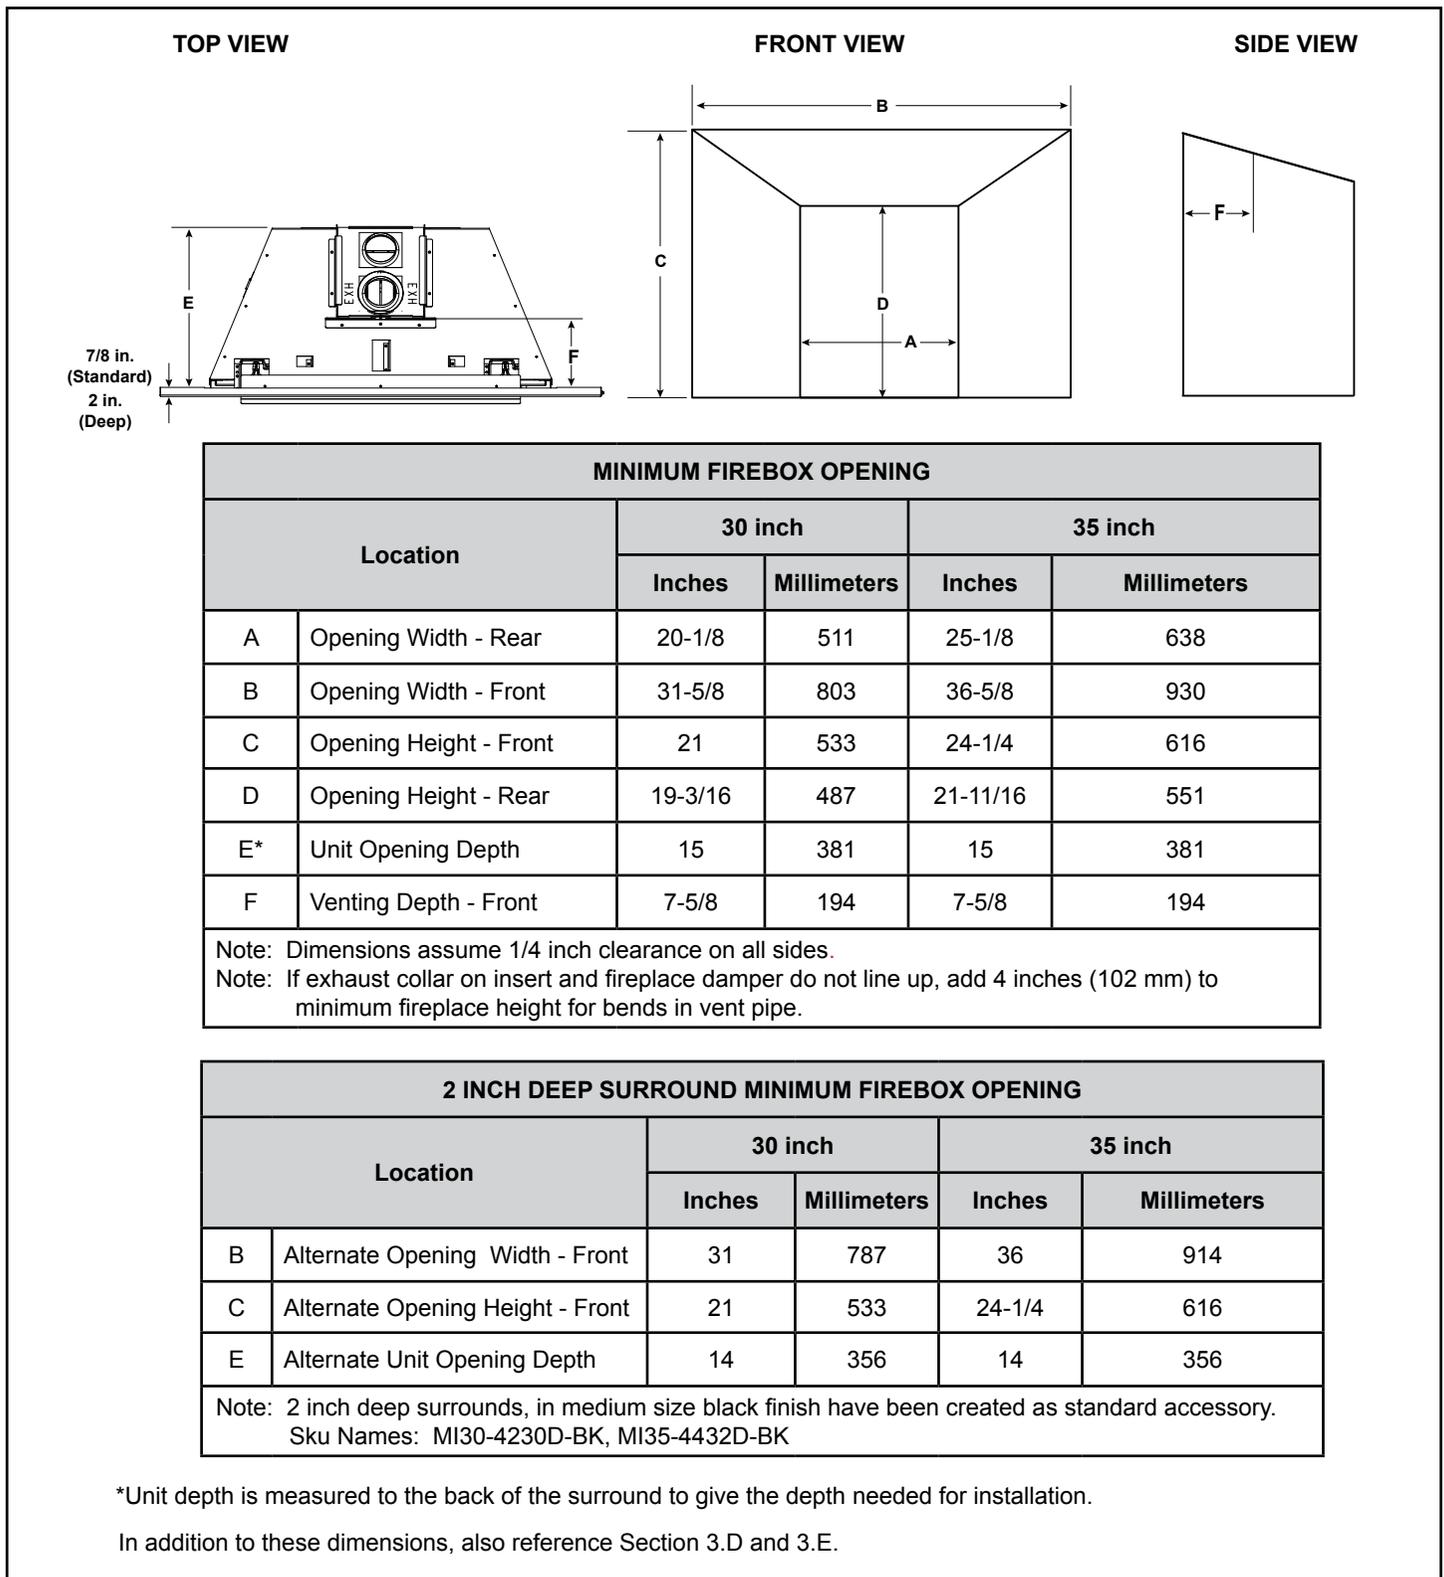

Figure 3.7 Firebox Opening - Standard Surround - 3/4 in.
*Note: Location G is the appliance depth measurement, for installation depth reference Location E on Figure 3.7.